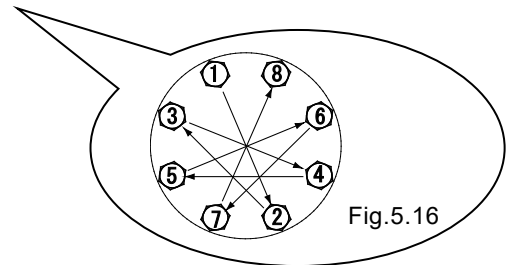

Fig.5.16
- Tighten the bolts gradually in a diagonal sequence with even torque. (cf. Fig.5.16)